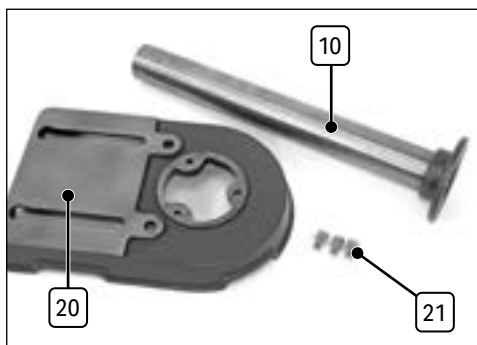

Fig. 1
6.1 Fitting Base to Column (Fig.1)